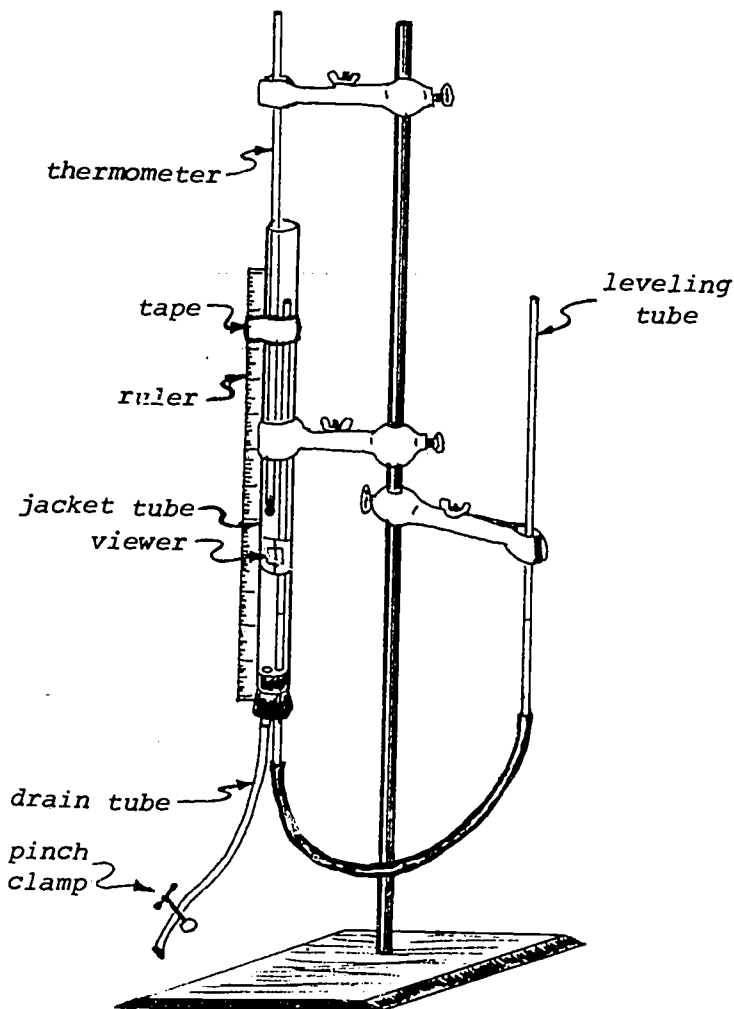

FIGURE 3: Final assembly.
8. When the cement plug has hardened, complete the assembly of the apparatus as detailed in the following steps. (See Figure 3.)
9. Clamp the large glass (or plastic) tube to the ring stand. This tube is called the "jacket tube" in Figure 3.
13. Attach the thermometer as shown in Figure 3. The clamp should be above the 60-degree mark on the thermometer. The bulb of the thermometer should be approximately halfway down the length of the air column. The thermometer may touch the tube containing the air sample, but it should not touch the jacket tube.
15. Tape a millimeter ruler to the outside of the jacket tube. The zero mark on the ruler should line up with the lower edge of the cement plug, so that the length of the column of air can be read directly off the ruler. The upper piece of tape should be below the zero-degree mark on the thermometer so that it will not obscure any temperature readings. The lower piece of tape (not shown in Figure 3) should be wrapped around the lowest part of the jacket tube so that it will not interfere with the reading of the meniscus.